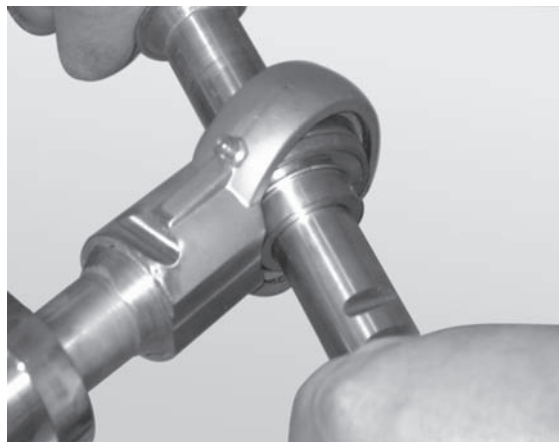

**Figure 83**
11. Use a hex wrench (**Figure 83, item 1**) to tighten the bearing shaft fasteners (**Figure 83, item 2**) to 6 N•m (54 in•lbs). Check after 24 hours of conveyor use.